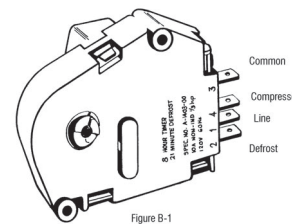

Figure B-1
4. Wire color codes have been left out since they can change from one production year to the next, and also between brands. Use timer wiring diagram, Figures B-1 and B-2, shown below for terminal arrangement of replacement timer, where no instructions are given for your particular timer.